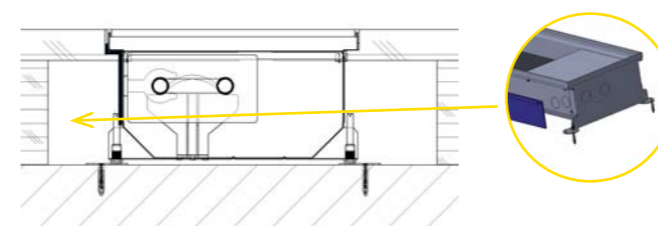

Figure 6: Hollow floor - thermal insulation for floor convector without fan to protect the floor on the exchanger side.
- › At your own discretion (parquet, floating, or wooden floors), install thermal insulation on the outside of the convector vat on the heat exchanger side. (Figure 6).